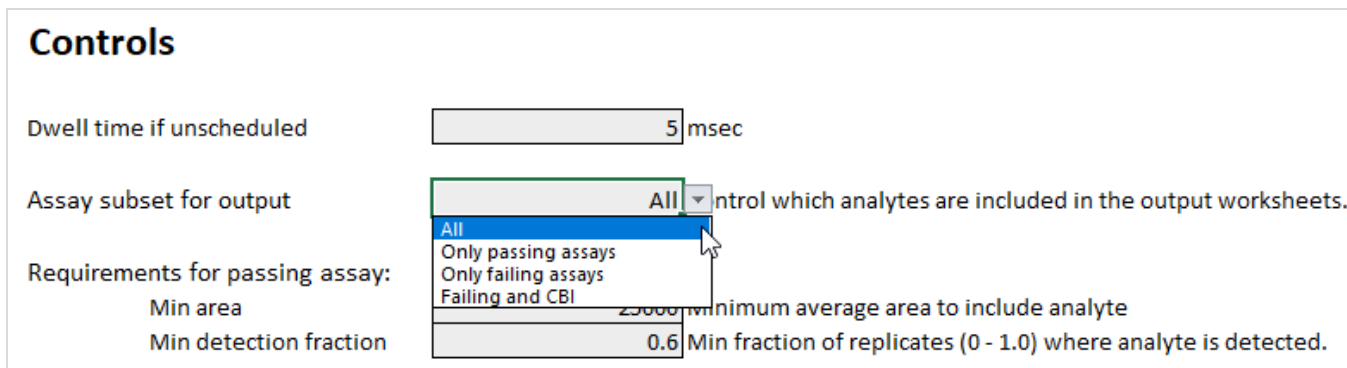

Figure 9.3. Filtering Controls in the sMRM Pro Builder Template.
9. The template has the ability to filter out lipids that are not detected by using the area, RT and peak width information. Typically, the filtering step is applied only for the last iteration and can be controlled through settings on the *INSTRUCTIONS AND CONTROLS* tab. At this point it is recommended that no lipids are filtered out of the assay so remember to set the *Assay Subset for Output* set to **All** - **Figure 9.3**.
13. Paste the exports into the Excel template again (Input-RT, Input-Area, Input-Width tabs). To have the template automatically filter out the undetected lipids, set the *Assay subset for output* setting to *Only Passing Assays* (**Figure 9.3**). Then click Calculate (F9).